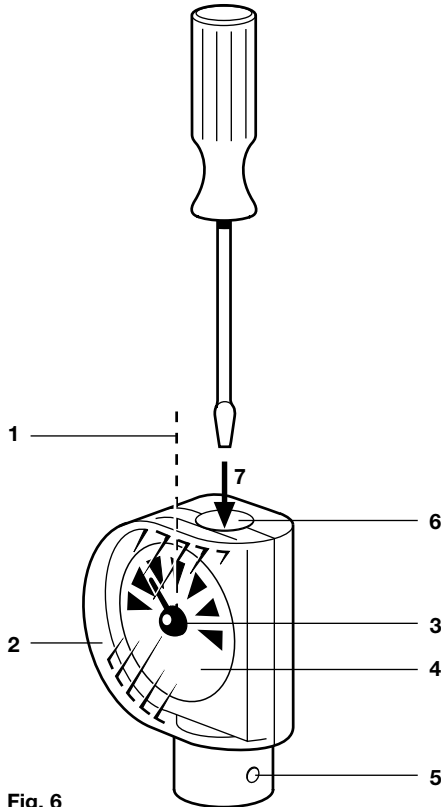

Fig. 6
For the following instructions you should make reference to Figure 6. The sensor should first be set on site to the midway mark (1). Make any adjustments to the desired setting with a suitably sized screwdriver engaged in the adjustment drive (7) on the end of the indicator dial. Turning clockwise will lower the temperature, anticlockwise will increase it. After setting the plant to work, compare the thermometer reading with the scale reading on the temperature control reading. This may be found to differ by a few degrees, if precise control is required it can be adjusted by resetting the scale as follows:-
1. Remove the transparent front cover (2) of the indicator head and turn the indicator (3) manually until it corresponds to the actual temperature.
2. Replace the transparent cover (2).